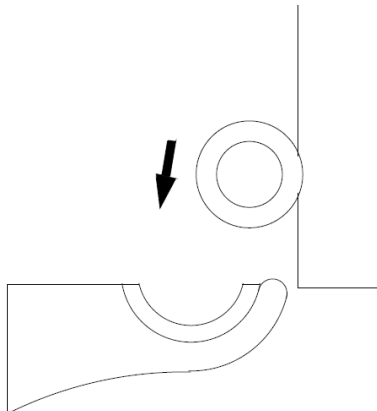

Figure 7 | Lift radiator onto wall brackets
6. The radiator is now ready to mount. Lift the radiator onto the Brackets as in **Figure 7**.